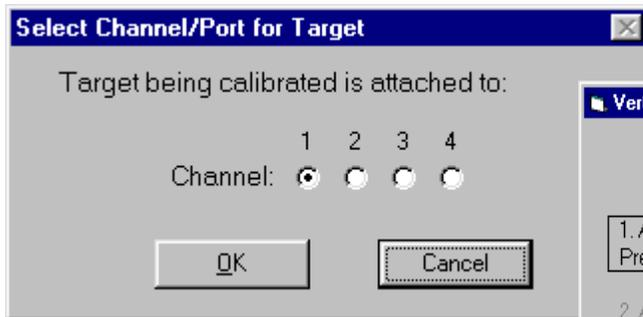
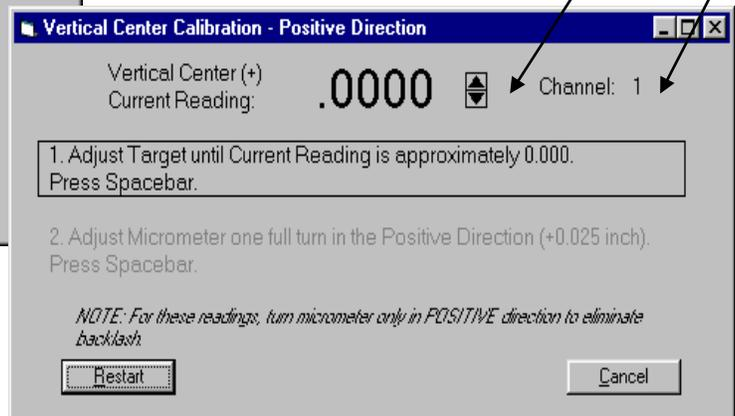

Figure 20 – Channel/Port Selection Screen
Figure 21 – Calibration Screen
The Select Channel/Port for Target menu displays (see Figure 20). Select the channel or the port to which the target is attached and click **OK**. The Calibration Screen displays and indicates the Port or Channel selected (see right arrow in Figure 21).
- The double arrows next to the reading are visible only in Manual Data mode and are not available when actual targets are being read (see left arrow in Figure 21).
- 1. For the first reading, (in this case V+), center the target using the centering micrometer. This corresponds to Step 1 on the Calibration Screen (see Figure 21).**
1. **For the first reading, (in this case V+), center the target using the centering micrometer. This corresponds to Step 1 on the Calibration Screen (see Figure 21).**